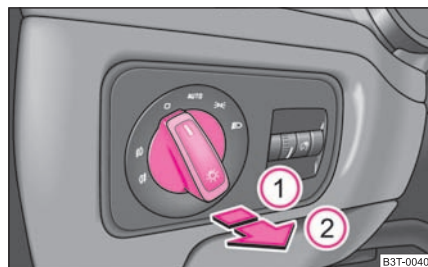

Fig. 42 Dash panel: Light switch
- Turn the light switch ⇒ fig. 42 into position **AUTO**.
- Turn the light switch ⇒ page 54, fig. 42 into position **AUTO**.